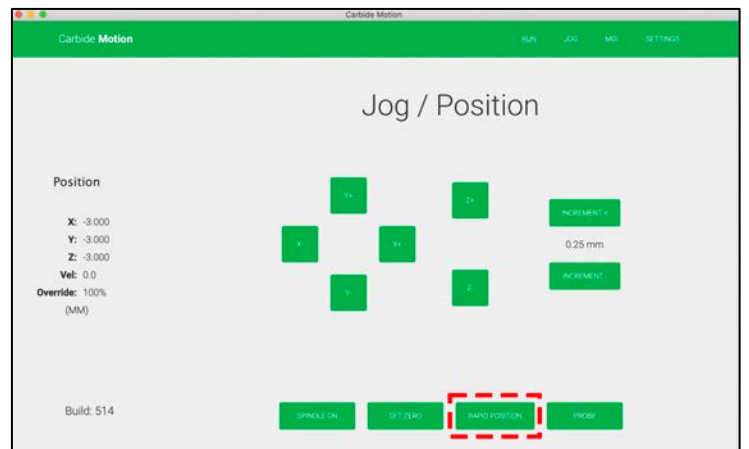

Figure 19
4. On the *Jog* screen, click the **Rapid Position** button. See *Fig. 19*.